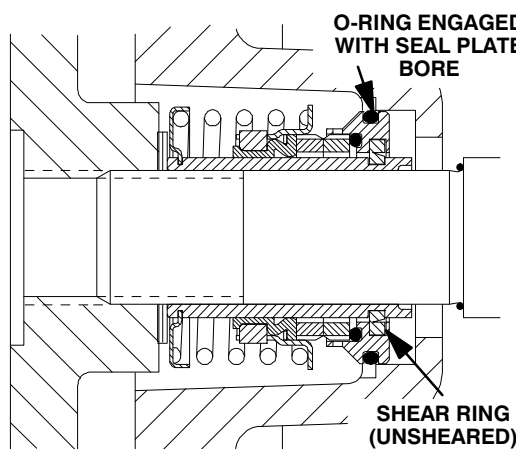

Figure 7. Seal Partially Installed
Clean and inspect the impeller as described in **Impeller Installation and Adjustment**. Install the full set of impeller shims (3) provided with the seal, and screw the impeller onto the shaft until it is seated against the seal (see Figure 7).